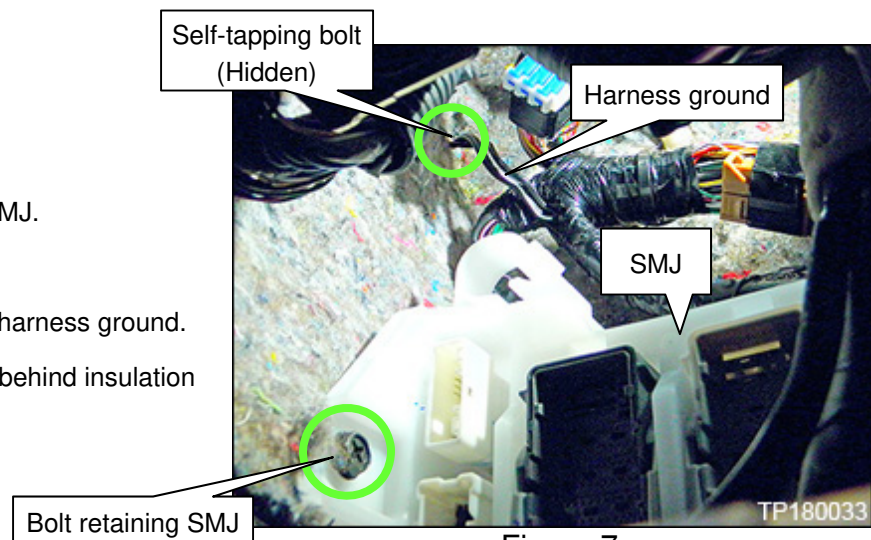

Figure 7
- NOTE: Bolt hidden in Figure 7 behind insulation material.